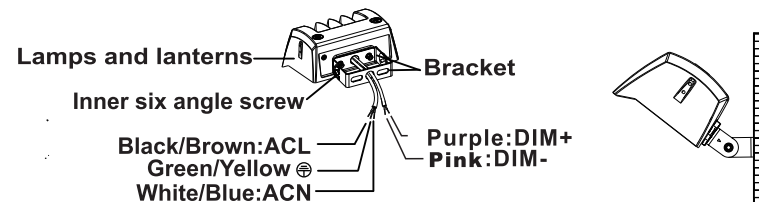

figure 5.3
Step 2: Finish the wire connection according to the right mode of connection (pay attention to positive wire, negative wire, and ground wire).(figure 5.3)